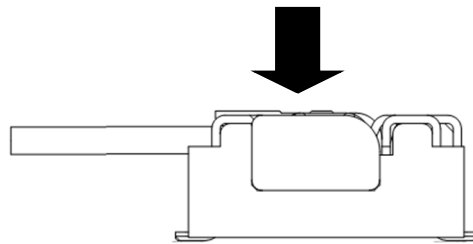

Fig. 6 Press Load for Mated Connector
- You may put a stopper above the mated cable connector to prevent coming out. Use recommended loads to apply on the connector, and the stopper must apply on the top surface of connectors as shown as Fig.6.